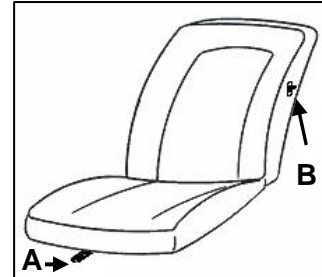

Figure 3.3.1
Figure 3.3.1 is the driver's seat. To adjust seat position, move the handle (A) sideways and select seat position. To access batteries, adjust the seat fully forward, then lift release lever (B).